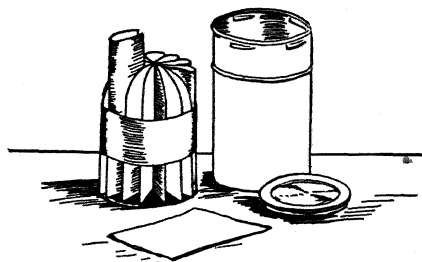

FIG. 48. FILM PACK DEVELOPING TANK
*Developing Other Films.*—For film pack first place the pieces of film in the special film pack tank (see Fig. 48), after which proceed as for development of roll film in tank. Or, develop the pieces of film separately just as with cut film.